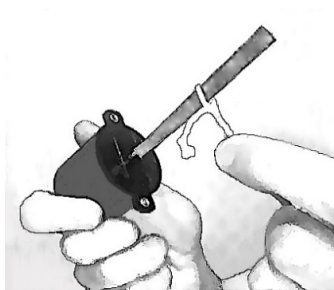
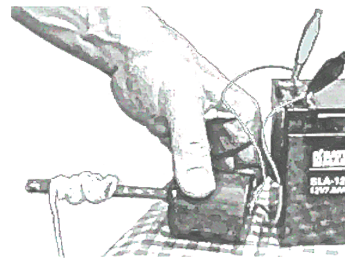

Fig. 3
Fig. 4
3) Install the shaft on the motor (Fig. 3) and hold the motor on the edge of a table (Fig. 4).
4) Connect the motor terminal leads to the battery to pull up the mass (Fig. 4).